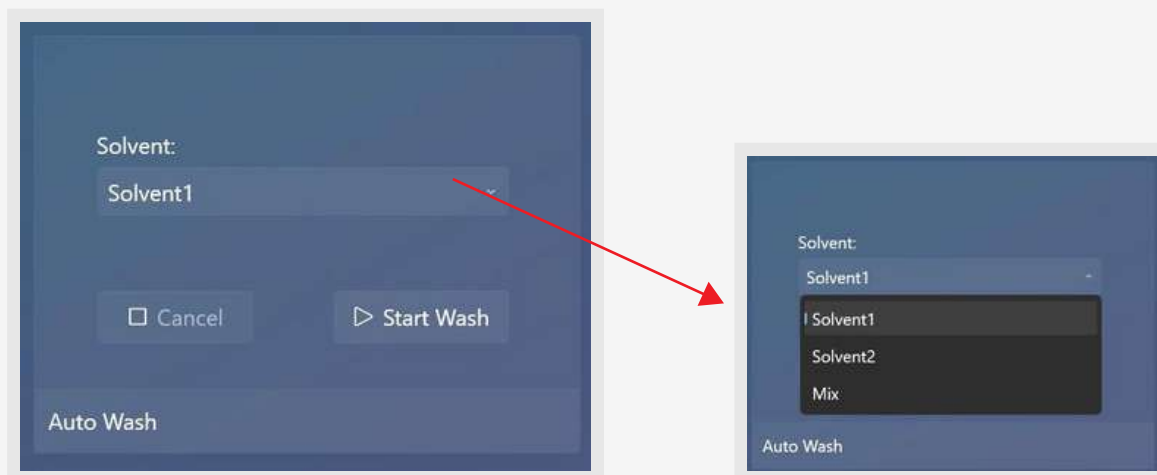

Figure 16: Autowash Menu
3. Clicking on the Bath Oil Level button will open the menu displayed in Figure 16, where the oil level can be viewed. If the oil level drops below the required threshold, the device will automatically disable the heater to ensure safety.